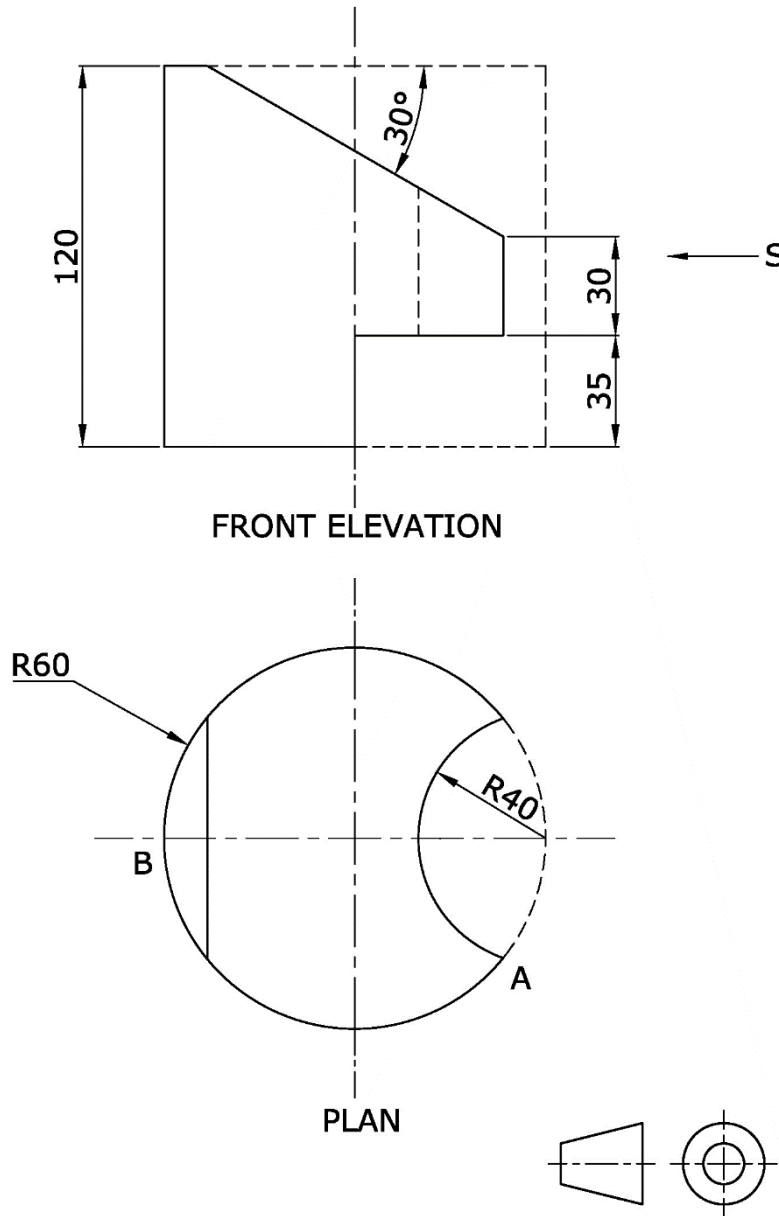

Figure 3b
- a) Copy, full size, the elevation and plan of the cylindrical solid, shown in Figure 3b. (2)
- b) Project an end elevation in the direction of the arrow S. (6)
- c) Construct the surface development of the curved surface between A and B. (5)